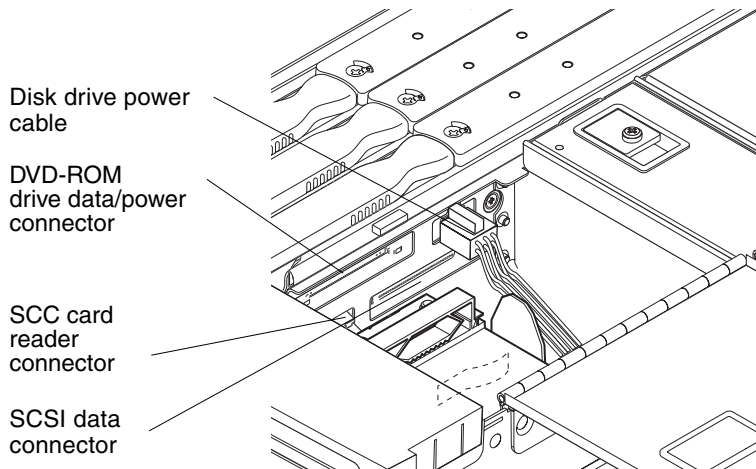

FIGURE 8-3 IB_SSC Assembly Cable and Connector Locations
9. Disconnect the I/O cables from the IB_SSC assembly to the removable media modules (FIGURE 8-3). Secure the cables out of the way.